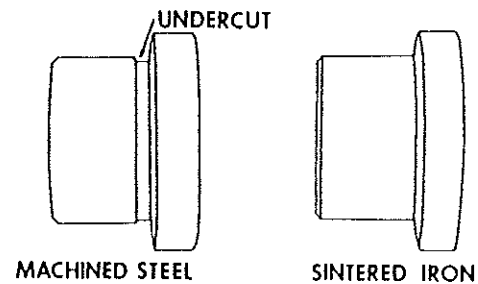

Figure 712. Machined Steel and Sintered Iron Bushings
(2) Sintered iron bushing with shoulder must be replaced with machined steel bushings (5). The machined steel bushings have an undercut 0.062 x 0.005 in. Immediately behind the bushing shoulder (see Figure 712). Refer to illustrated parts list for correct part numbers. After compliance with this step magneto P/N 10-51360-30 becomes new P/N 10-51360-37. Overstamp the nameplate (52) with the new part number. All other part number magnetos complying with this step shall be identified by identifying by stamping a 1/8 inch high letter "B" in the lower left-hand corner of the nameplate. Discard old style bushing.